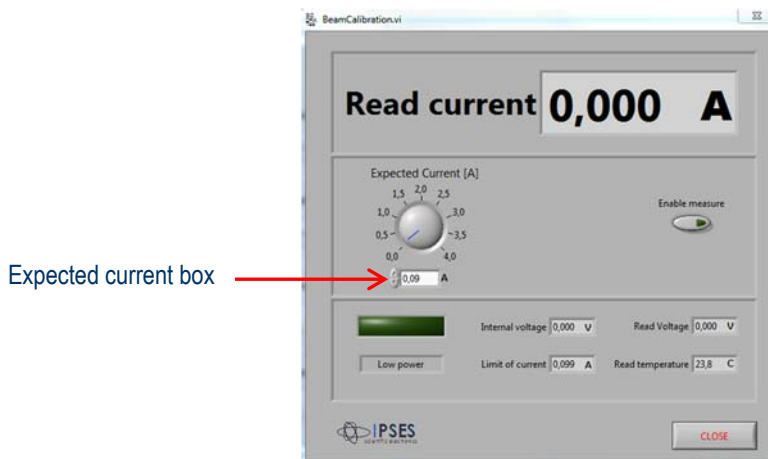

Figure 46 –Beam Calibration window
The Beam calibration button on the main panel allows you to access the window for reviewing the electrical values of the cell for the manual calibration of the solar simulator. In this mode SoCRATes keeps short-circuit the DUT and reads the current delivered by it. The operator must set the value of a typical short-circuit current of the solar cell (I_{sc}) in the Expected Current (A) box (Figure 46).